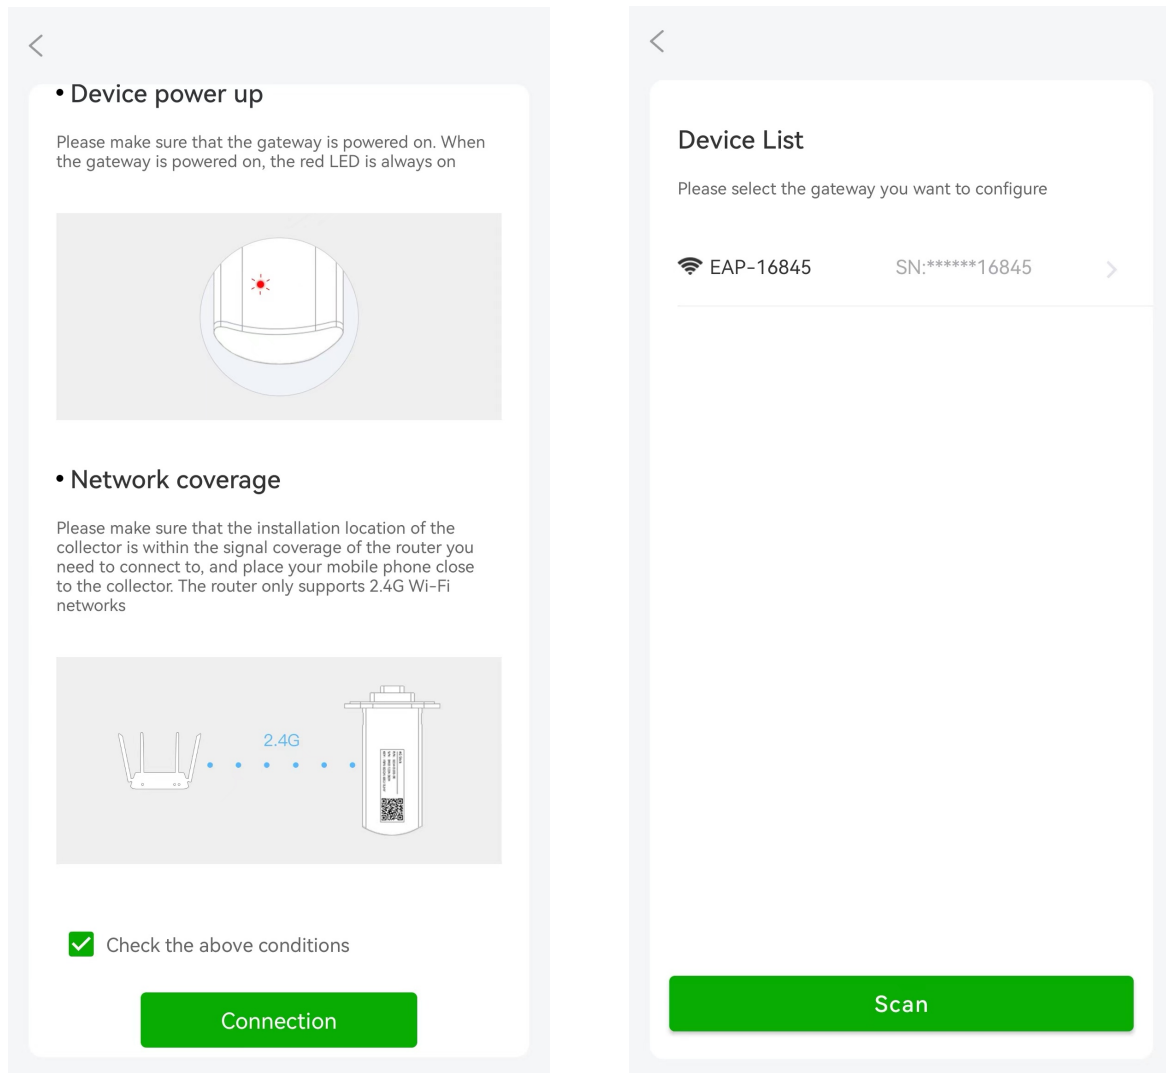

Figure 5-2 Find equipment
1. Click "Find device", the APP will pop up a guidance interface, and then click the "Connection" button. The APP will search for nearby Wi-Fi devices that can be configured List them as a list (if the list is empty, check whether the prerequisites of the guidance interface are met, and then click the "SCAN" button), as shown in Figure 5-2.